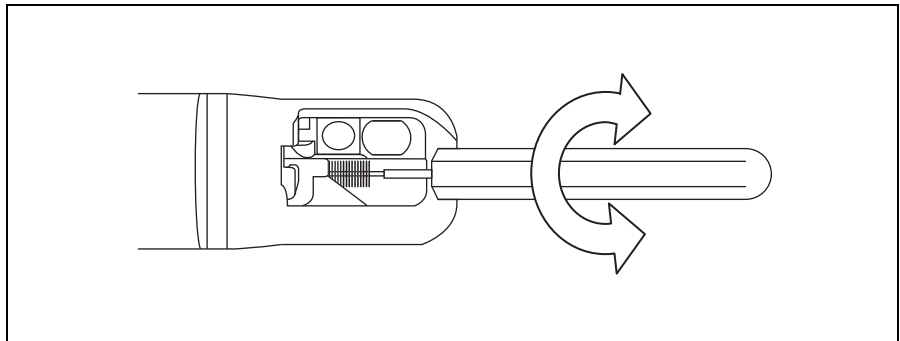

Figure 5.29
8. Rotate the inserted brush three revolutions while ensuring the end of the brush contacting the wall behind the forceps elevator (see Figure 5.29) while keeping the distal end of the endoscope immersed in the detergent solution.